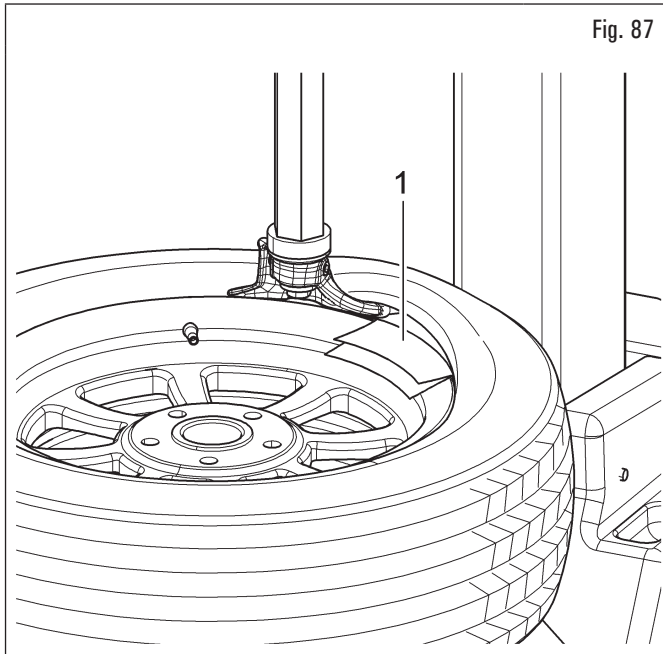

Fig. 87
10. if the rim is made of light alloy, fold up a bead protection foil and wrap the edge of the rim under the toolhead (Fig. 87 ref. 1), to prevent damage to the rim due to contact with the lever and favour the sliding of the bead on the edge of the rim.